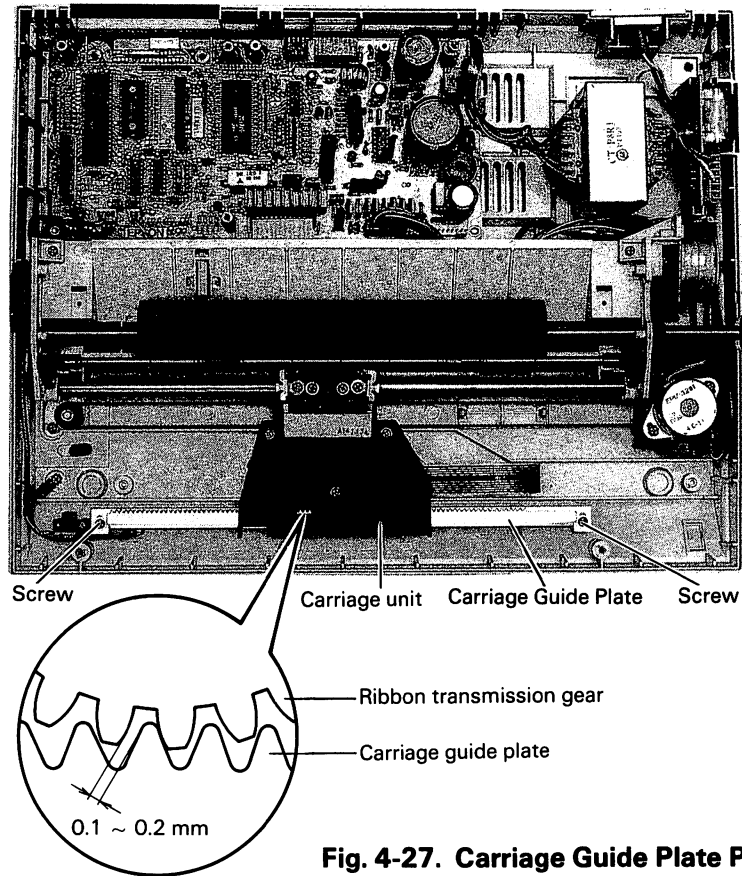

Fig. 4-27. Carriage Guide Plate Position Adjustment
4.3.5 Carriage Guide Plate Adjustment (Fig. 4-27)